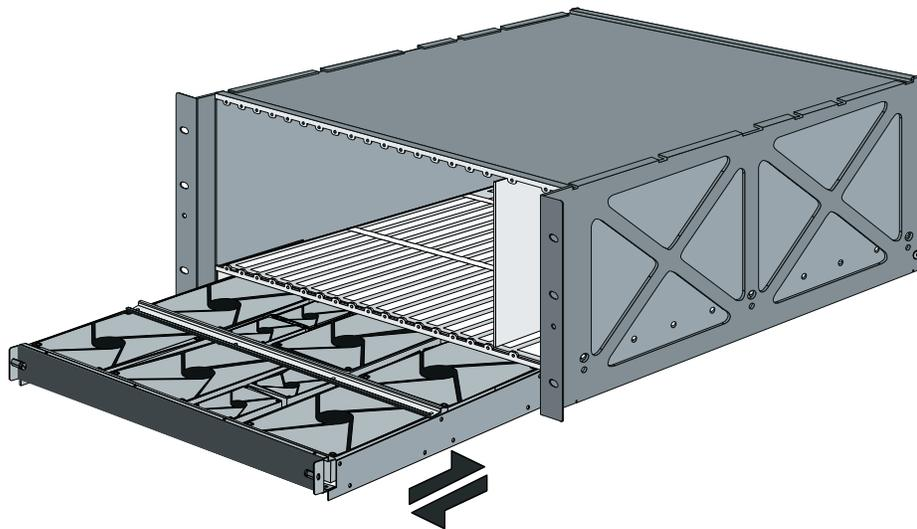

Figure 18. Removing/Installing the Fan Tray
- 2 From the front of the chassis, remove the fan tray carefully by sliding it toward you. When you remove the fan tray, make sure that you keep it flat as you are pulling it out—do not tilt the fan tray. See Figure 18.
- 1 To install the fan tray, insert it into the front of the chassis making sure the sides of the tray fit smoothly into the guide rails. For best results, keep the fan tray level with the guides. See Figure 18.